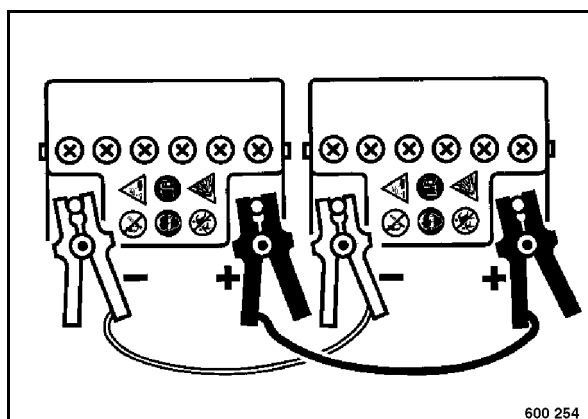

Fig. 85
- Join the plus poles on external battery and starter battery with the jump wire (Fig. 85).